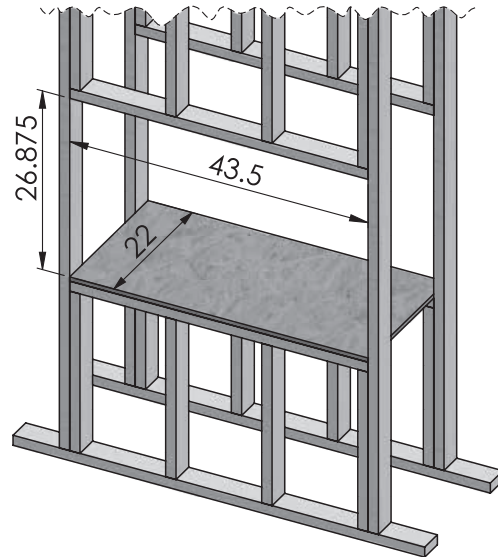

Figure 6: Framing Dimensions
1. Prepare the framing according to Figure 6. The height of the platform depends of the desired viewing height.